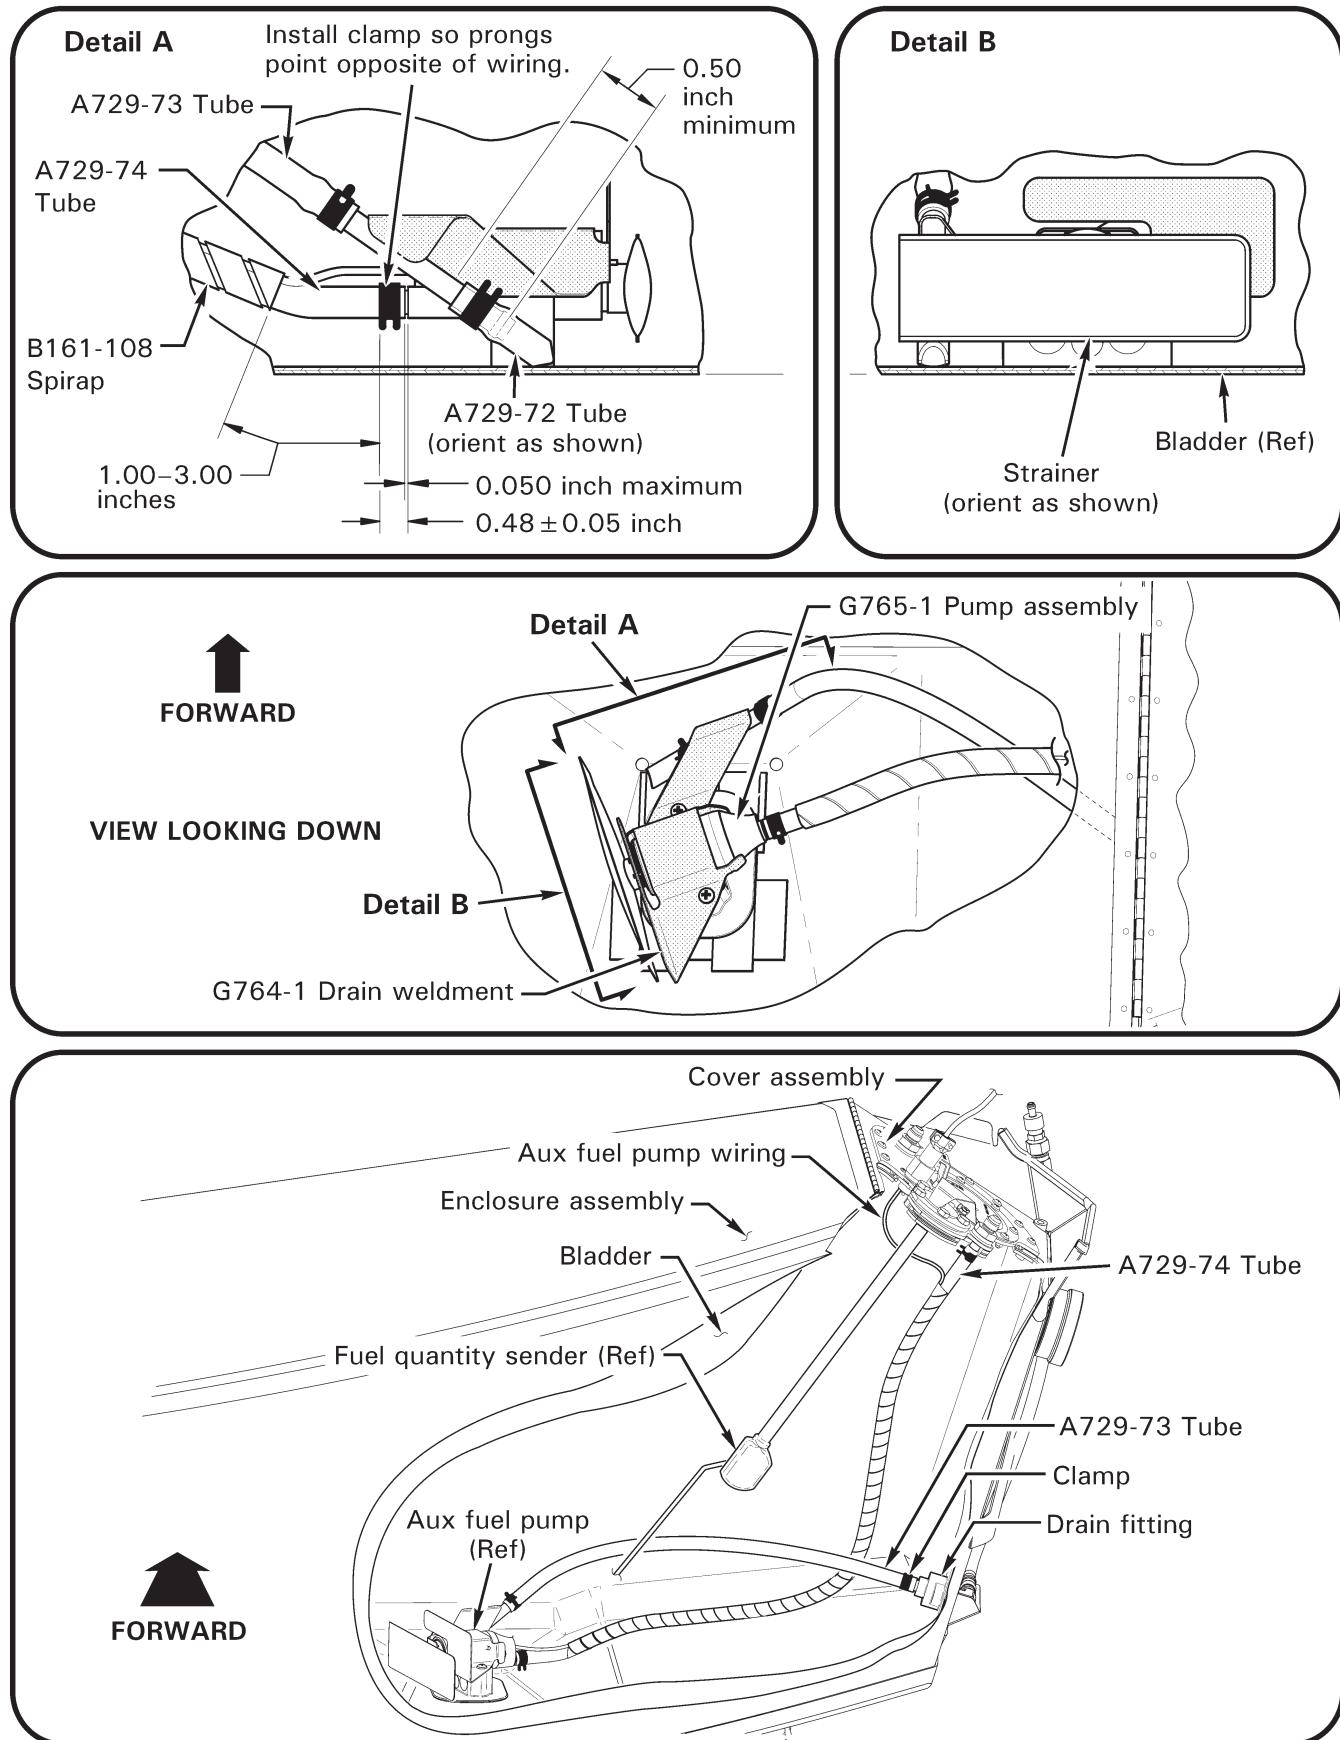

FIGURE 28-7 FUEL PUMP
5. Refer to Figure 28-7. Remove screws securing G759-1 cover assembly and G756 bladder to G754 enclosure assembly. Lift cover and inside bladder, release | clamp securing A729-73 tube to drain fitting. Inside bladder, remove screws securing G764-1 drain weldment and G765-1 pump assembly to bladder. Remove weldment, pump, and tubes with connected cover assembly. Tape opening to prevent contamination of bladder interior.
3. Refer to Figure 28-7. Position G764-1 drain weldment with attached tubes (without pump) in bladder and temporarily secure with screws. Verify with flashlight and mirror bottom end of A729-72 tube contacts bladder as shown. Adjust tube and repeat step as required. Remove weldment with attached tubes.